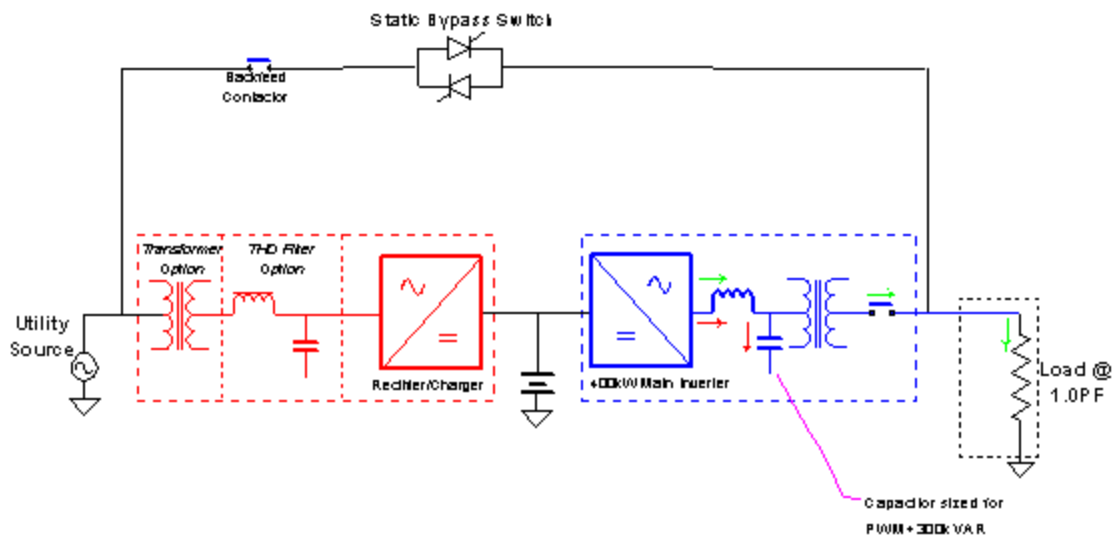

Figure 5 - Double Conversion Real Power & Reactive Power Paths @ 1.0PF Load
If the main inverter is rated to deliver 400kW from the DC bus, obviously it cannot support a continuous load greater than 400kW. In fact for the older step-wave and SCR technologies, if the load power factor is unity, i.e., PF = 1.0, the main inverter may have a hard time supporting more than ~ 265kW of real power (P) at the output bus load. This is shown below in figure 5.